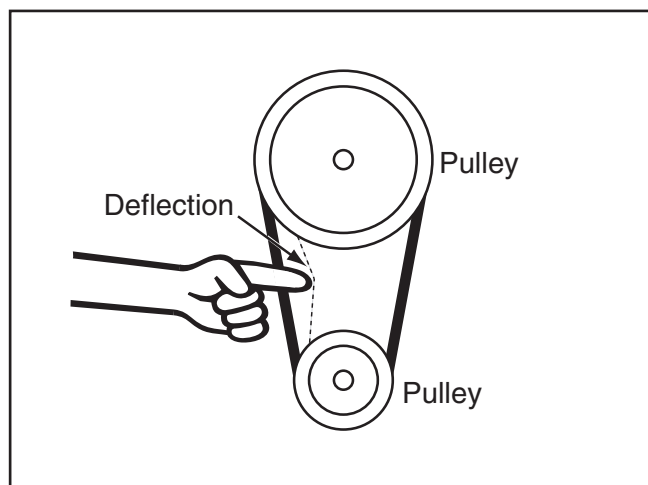

Figure 45. V-belt deflection.
6. Check the V-belt tension. When tensioned correctly, the V-belt can be deflected approximately $\frac{3}{4}$ " (see **Figure 45**).